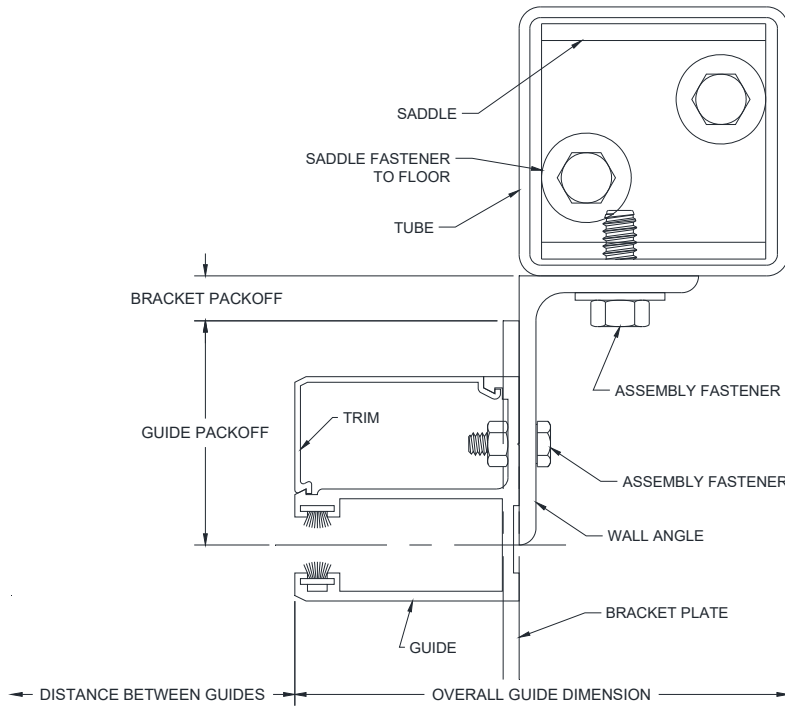

Figure 5.3– Face of Wall “Z” Guide Mounting to Tube
- **Face of Wall and Between Jamb Units Mounting to Free-Standing Tubes (Figures 5.3 - 5.4):**